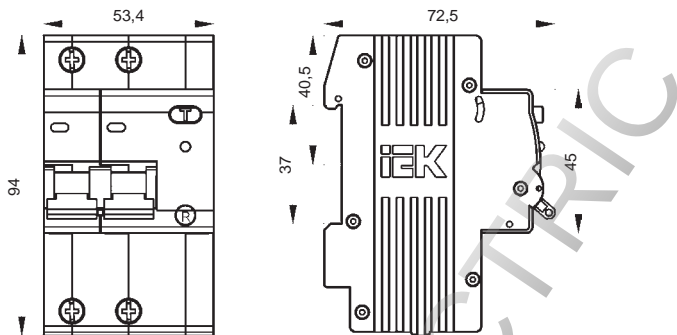

Figure 1. Overall and installation dimensions of AD12M.
2.4 Overall and installation dimensions are shown in Figure 1.